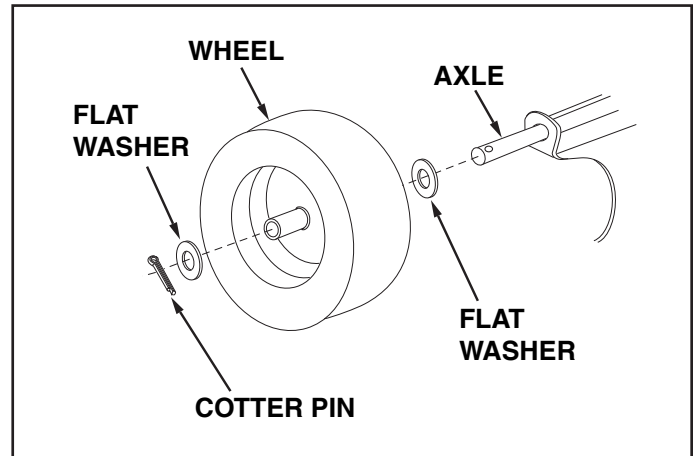

FIGURE 10
17. Assemble a flat washer, a wheel with the valve stem facing out, and another flat washer onto the axle as shown in figure 10. Secure the wheel on the axle with a cotter pin, spreading the ends. Repeat on other end of axle.